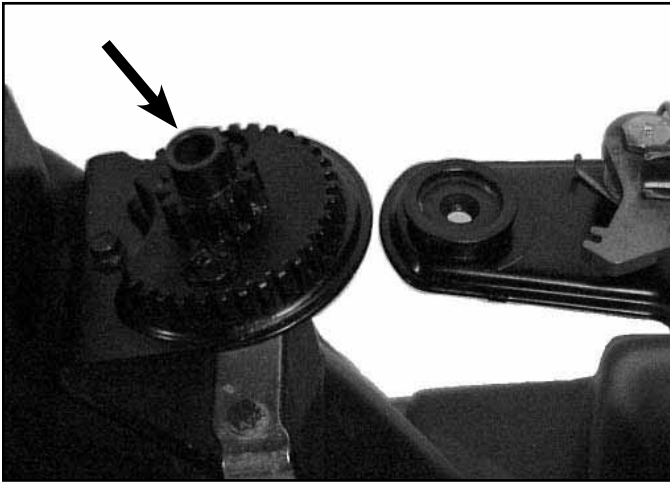

Fig 223
2. Place the spacer cupped side up on the support tube, then set the gear and bracket down on it. The shoulder bolt goes through and it secured with the washer and locknut (Fig. 223).